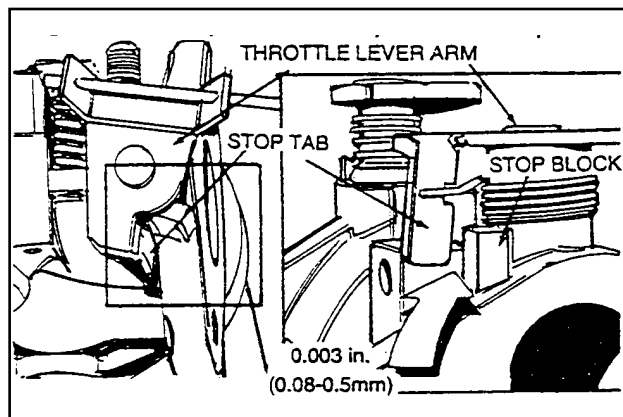

Figure 4. Set Gap Between Stop Tab and Stop Block
2. There should be a gap of about 0.003 inch (0.08-0.5mm) between the stop tab on the throttle lever arm and the stop block on the carburetor casting. See Figure 4.